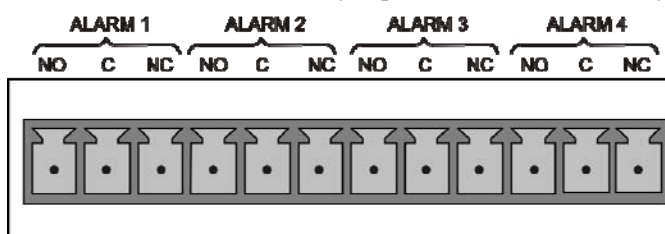

Figure 3-12: Concentration Alarm Relay
The TAI “E” series analyzers have an option for four (4) “dry contact” relays on the rear panel of the instrument. This relay option is different from and in addition to the “Contact Closures” that come standard on all TAPI instruments. The relays have 3 pins that have connections on the rear panel (refer Figure 3-12). They are a Common (C), a Normally Open (NO), & a Normally Closed (NC) pin.